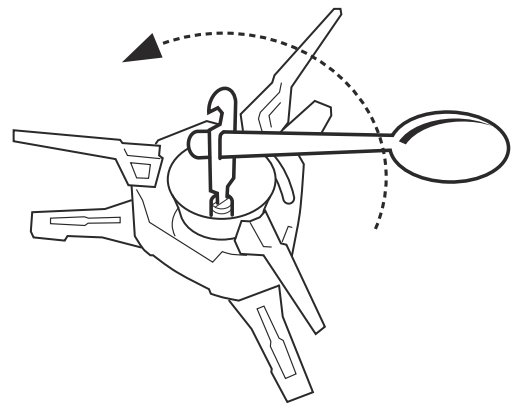

Figure 14-18. Unscrew the Jet.
- Unscrew the jet, using the jet and cable tool (see fig. 14-18).